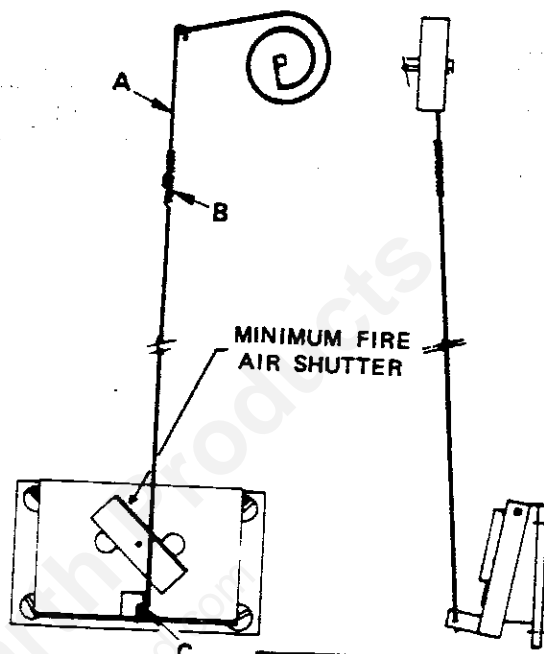

FIG. 10
- A. To increase the amount of heat at a "HIGH" setting, adjust the wire linkage to increase the draft damper opening (Fig. 10).